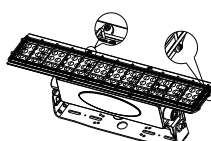

Figure 20
3. Fix the wire guard with screws (The operator should use torsion that over 0.7 N.M) (Figure 20).